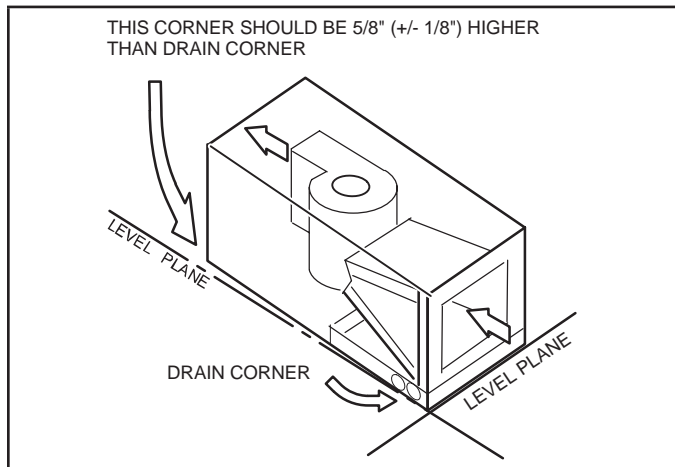

FIGURE 7. Sloping the Unit for Proper Drainage
- 3 - Set unit so that it is sloped toward the upflow drain pan end of the unit and level from front to back of unit (see figure 7).
Make sure the unit is sloped (similar to the slope shown in figure 7) so that the drain pan will empty completely without water standing in the pan.